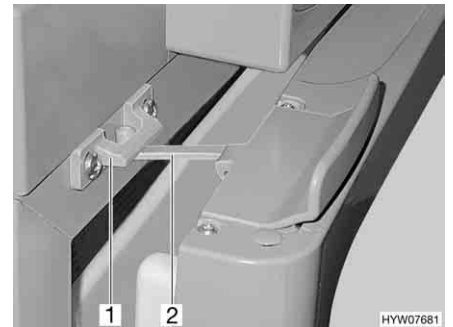

Fig. 185 Refrigerator door in ventilation position (Thetford)
- Open the lock (Fig. 185,2) and snap it into the locking catch (Fig. 185,1). The refrigerator door will then stay slightly open.